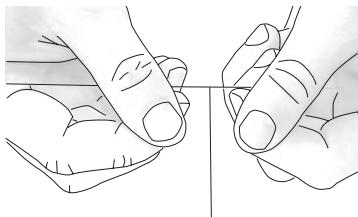
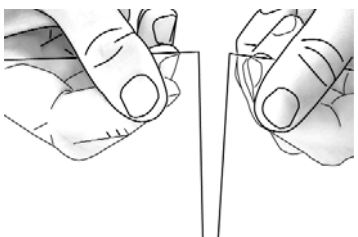

fig. 3 Hold the glass with fingers and thumbs
fig. 4 Break the glass by pushing upwards.
5. To break out the cut, slide the glass to the edge of the table or work bench, and place your fingers as shown in fig. 3. Break by pushing upwards. See fig. 4. Please note: When working with glass safety goggles and gloves should be worn.